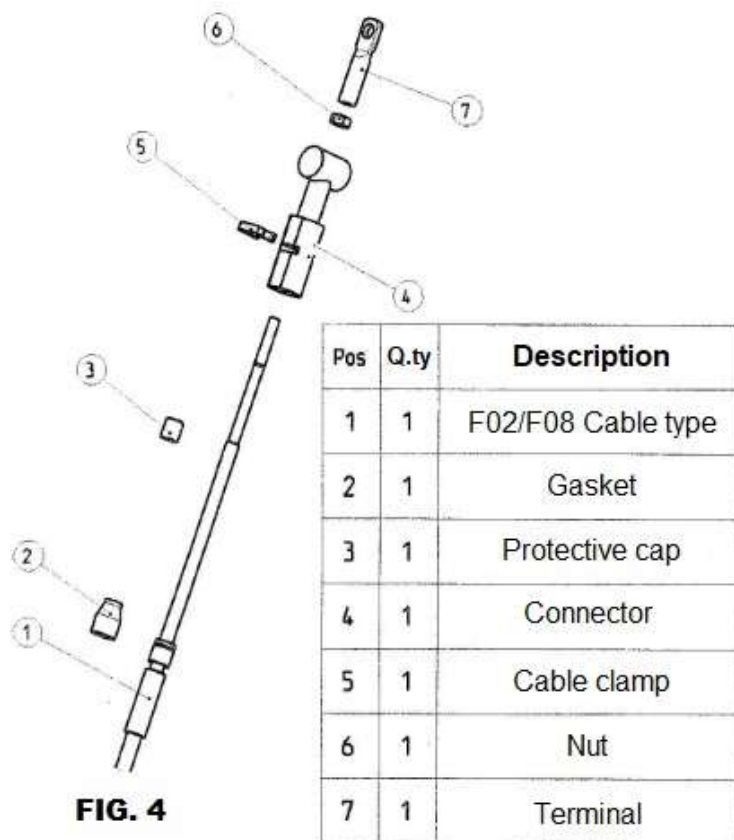

FIG. 4
USE OF UNIVERSAL CABLES F02 - F08 (see FIG.4):
*If necessary, using universal F02/F08 cables, adjust the stroke by screwing/unscrewing the terminal **(7)** (**see Fig. 4**).*